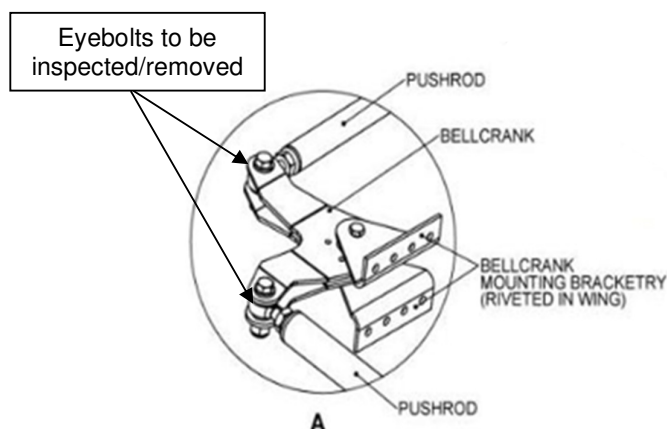

Figure 13: Aileron bell-crank assembly
- Step 7. Refer to Figure 13 and remove the AN4 locknuts and bolts.